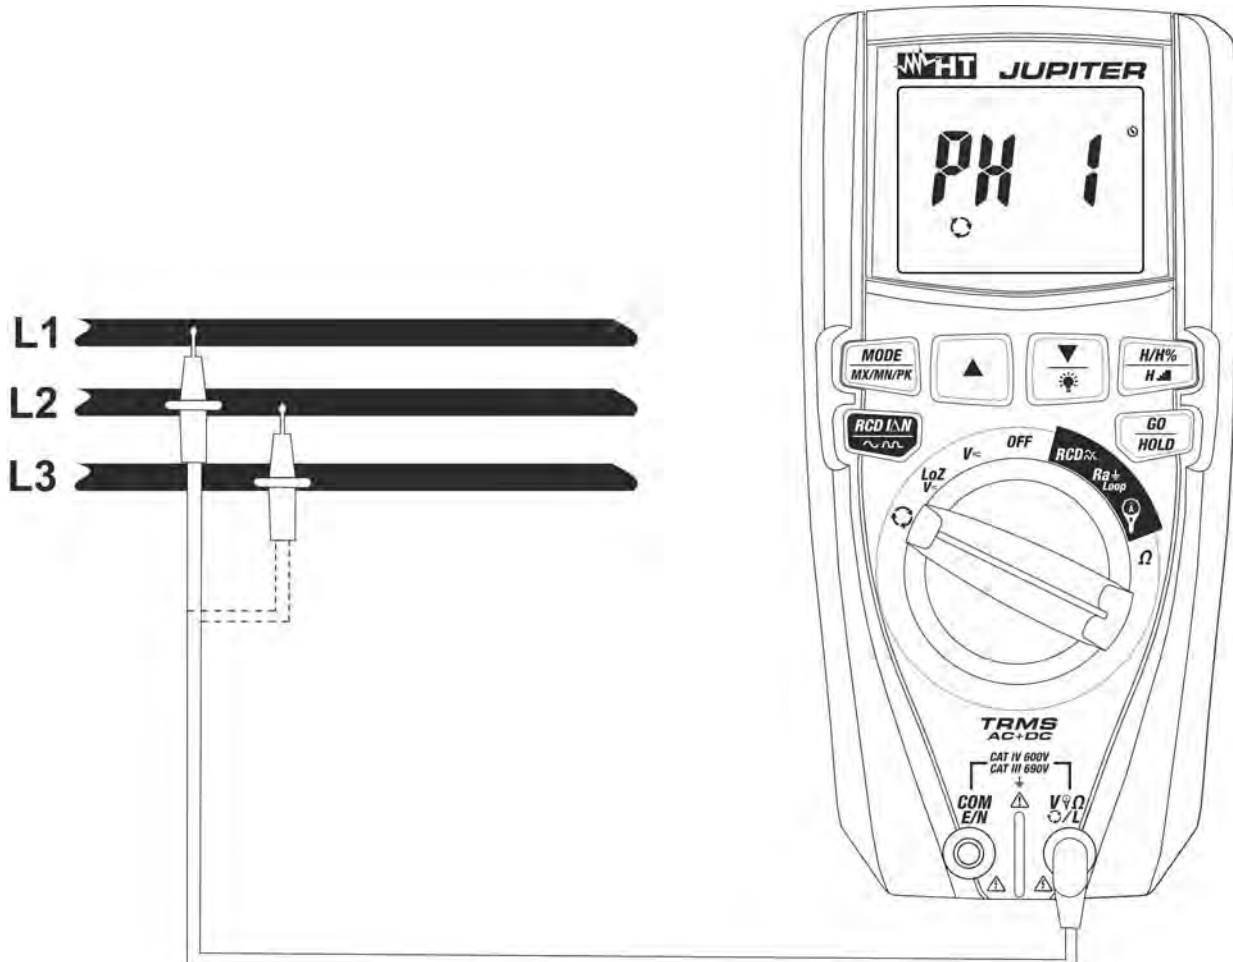
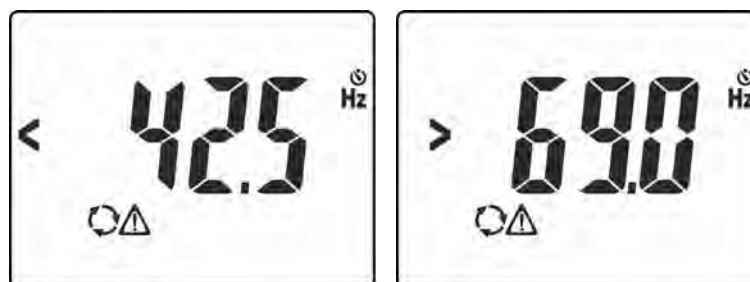
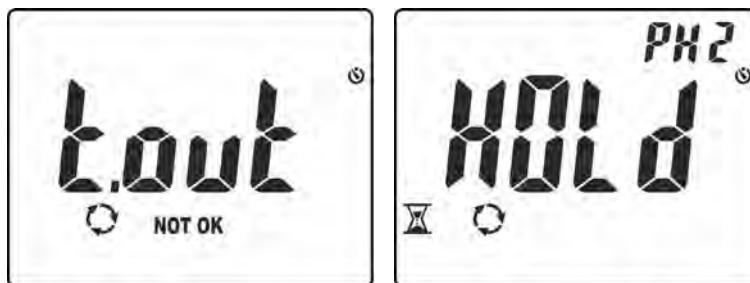

Fig. 12: Use of the instrument for phase sequence and phase concordance test
Fig. 13: Signal of voltage with wrong frequency
Fig. 15: Detecting phase L1 and waiting for phase L2
3. Position the red lead onto phase **L1** of the three-phase system to be tested (see Fig. 12). The following messages may appear on the display (see Fig. 13) to identify the presence of a voltage signal with frequency out of range **42.5Hz ÷ 69Hz**. In these conditions, the instrument does not perform the test.
- Position the red lead onto phase **L2** of the three-phase system to be tested (see Fig. 12). In case passage between phase L1 and phase L2 takes more than **10s**, the instrument shows message “**t.out**” on the display (see Fig. 15 – left side). In conditions of correct voltage and frequency, the instrument shows message “**HOLD**”, symbols and “PH2” and the buzzer sounds continuously, waiting for a stable voltage value on phase L2 to be detected (see Fig. 15 – right side)